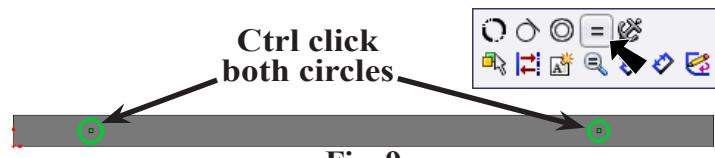

Fig. 9
Step 6. **Ctrl click both circles** to select both, **Fig. 9**. Release Ctrl key and click **Make Equal**  on the Content menu.